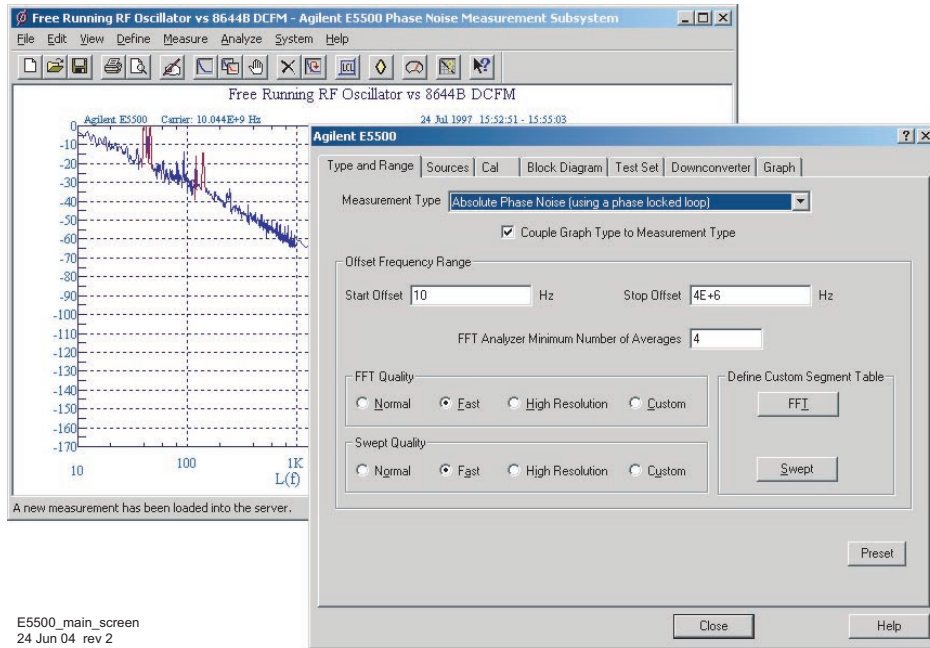

Figure 5 Phase noise measurement subsystem main screen
- 3 The phase noise measurement subsystem main screen appears (Figure 5 on page 38).